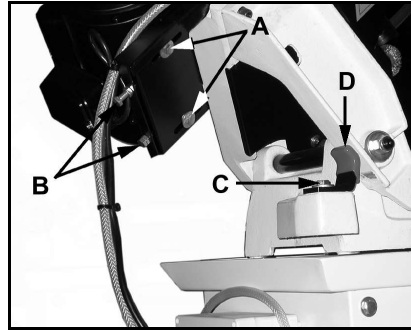

Fig 7
Loose the hex cap bolts (A, Fig 7).
Loose the hex cap bolt (C, Fig 7) of arm stop bracket (D).